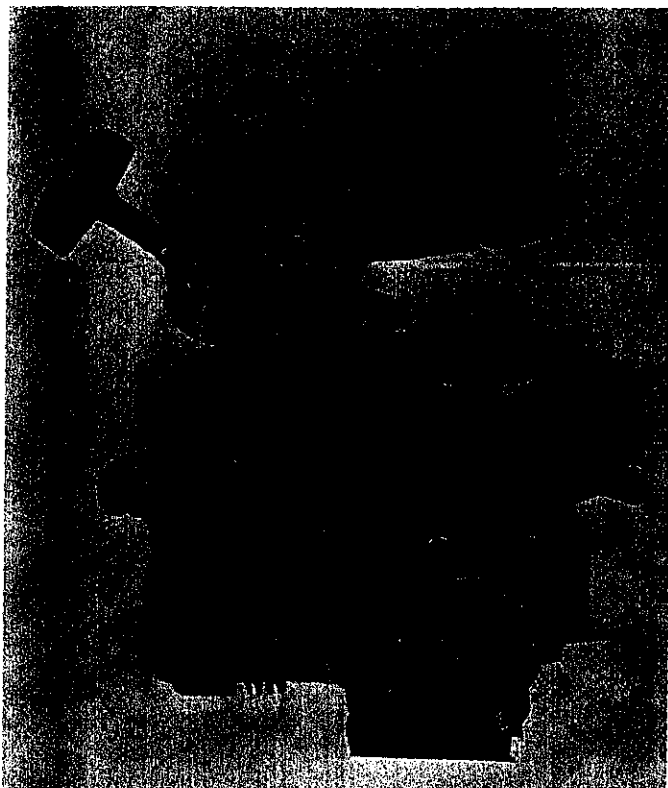

FIGURE 2. REMOVING STARTER
2. Remove starter from engine as shown in Fig. 2.